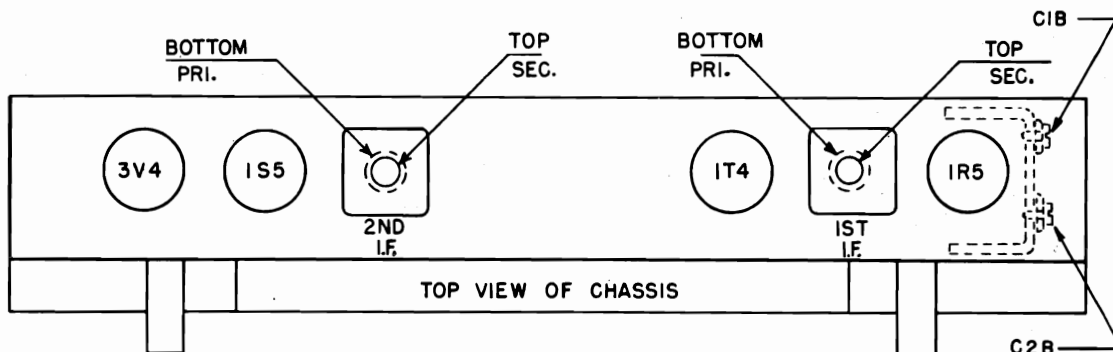

Fig. 1. Tube and Trimmer Location
1. The alignment procedure is given in table form. All i-f adjustments may be made with the chassis removed from the cabinet. The locations of the i-f and r-f adjustments are shown in Figure 1.